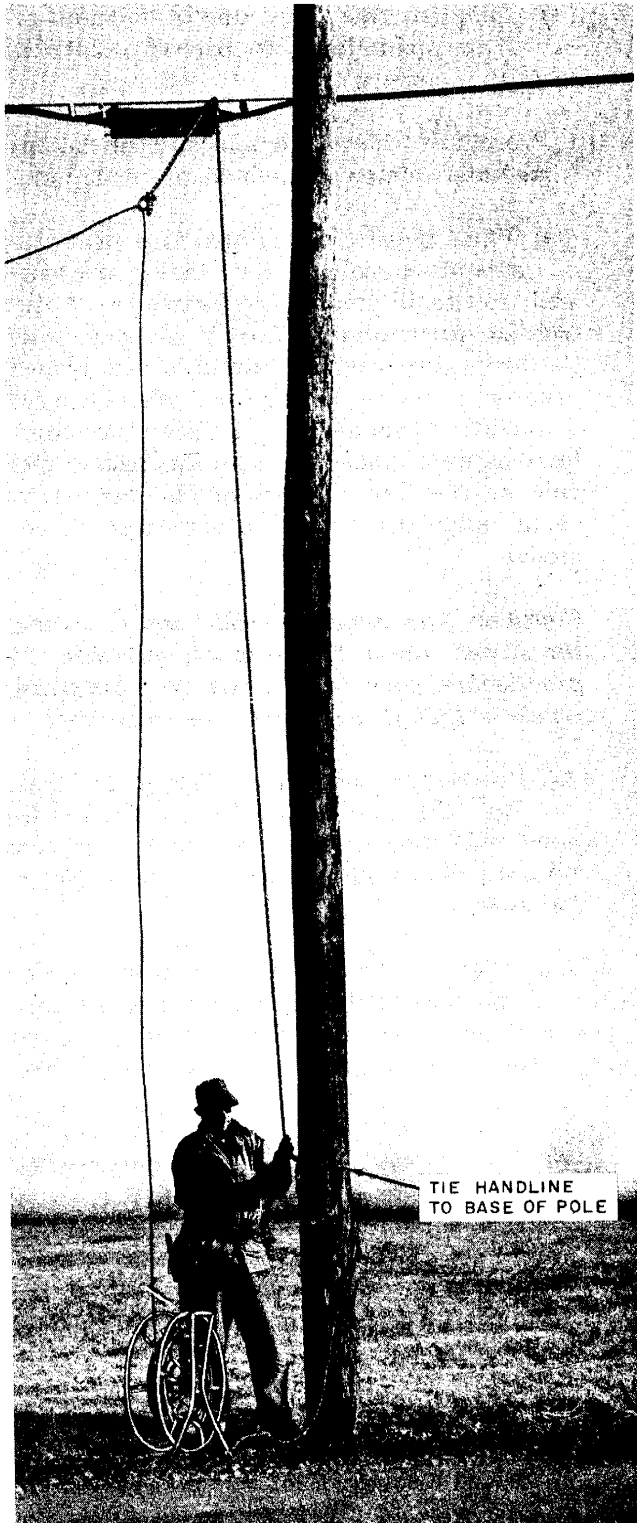

Fig. 5 — Drop Wire Raised to Approximate Height
(8) After the drop wire has been raised to the approximate required height, lash the handline near the base of the pole or, at a span clamp, to the lower rungs of the ladder as shown in Fig. 5.
(9) Climb the pole or, if at a span clamp, the ladder, and attach the drop wire to the pole or strand in a standard manner without removing the handline from the drop wire. When attaching the drop wire to a span clamp, bear in mind that the strand is forced out of line by the ladder resting against it and make any adjustments that are necessary to avoid excessive tension in the wire span when working from the ladder and also to ensure proper sag and clearance after removal of the ladder.
(10) Remove the handline from the drop wire. Cut the wire, leaving a sufficient length to reach the terminating point, and complete the connection in a standard manner.
- Γ (11) Attach the handline and remaining drop wire to the B Handline Carrier or under the body belt as previously mentioned and carry them down the pole in this manner. **Do not drop them to the ground.**